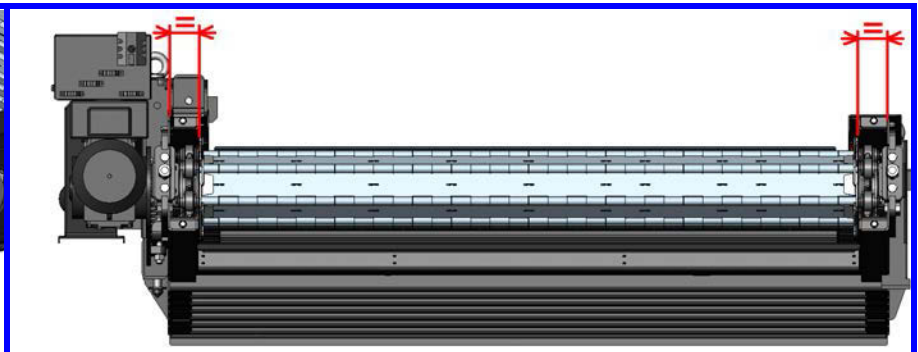

Figure 7 : Centering of belt
3. Center the belt or the scrapers by moving the drive shaft laterally with a mallet. The chains should be positioned at an equal distance on each side of the conveyor as shown in the diagram. (**Figure 7**).